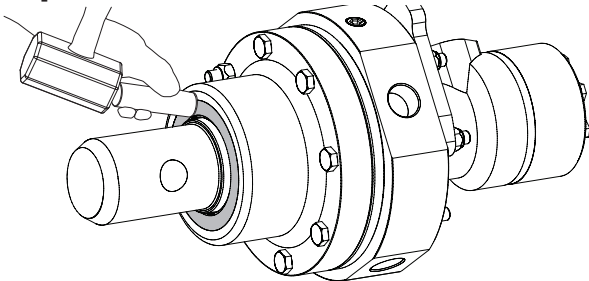

Figure 17
5. Insert the new shaft seal and tap it into place with a hammer and a piece of nylon or brass until the seal is flush with the housing [Figure 17].